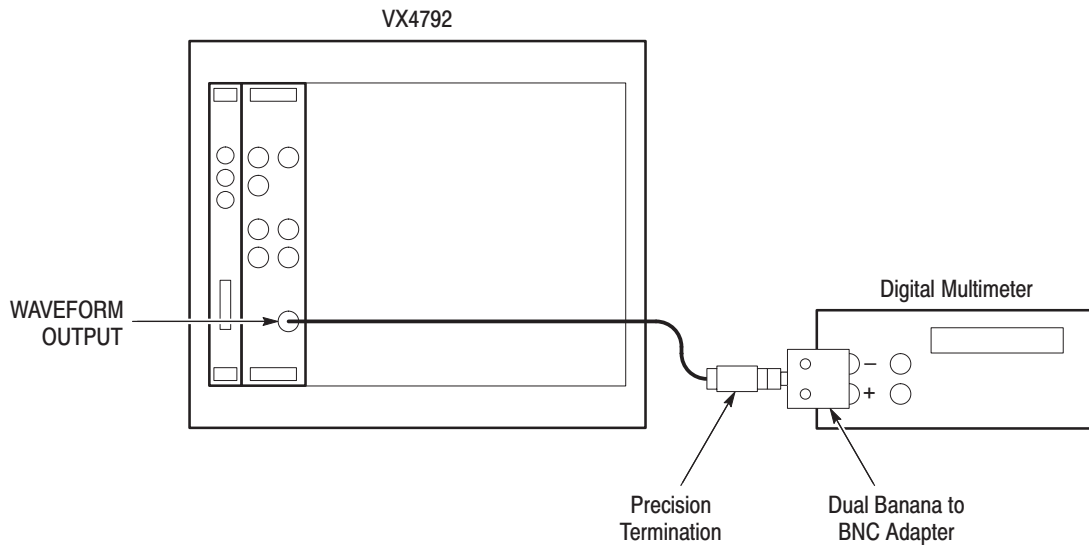

Figure F-14: Gain Accuracy Initial Test Setup
1. *Install test setup and set controls (see Figure F-14):*